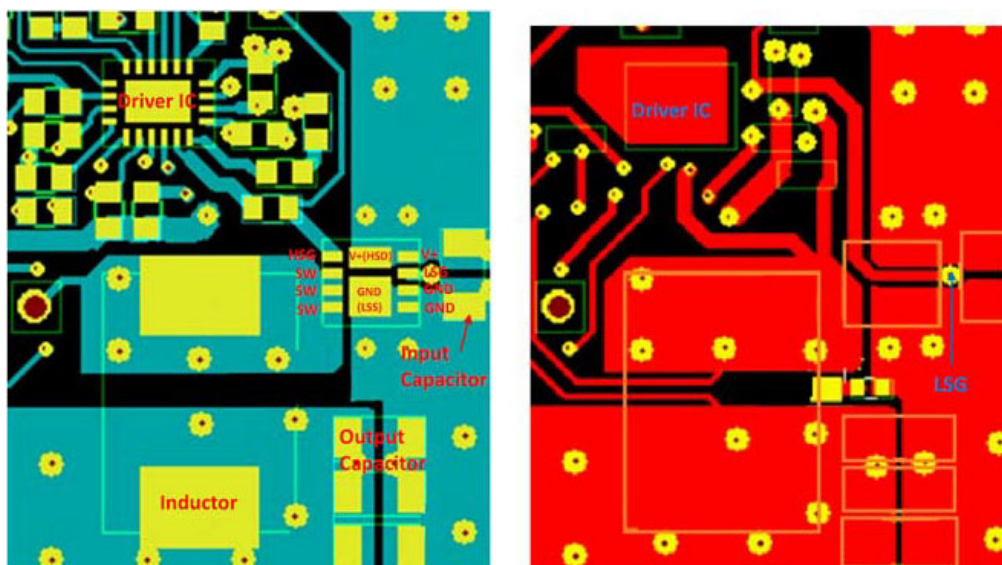

Figure 31. Top/Component (Green) View and Bottom (Red) PCB View
Figure 31 shows an example of a well designed layout. The discussion that follows summarizes the key features of this layout.
transients. The trace should be short and wide to enable a low resistance path and to minimize the size of the noise region. Care should be taken to minimize coupling of this trace to adjacent traces. The layout in Figure 31 shows a good example of this short, wide path.
- “The Power Clip has very good Junction–PCB heat transfer from all power pins. It has much better heat transfer Junction–GND (LSS) than traditional dual FET packages. In most cases, board ground will be the most effective heat transfer path on the PCB. Use a large copper area between GND / GND(LSS) PAD pins and board ground. To ensure the best thermal and electrical connection to ground, we recommend using multiple vias to interconnect ground plane layers as shown in Figure 31.